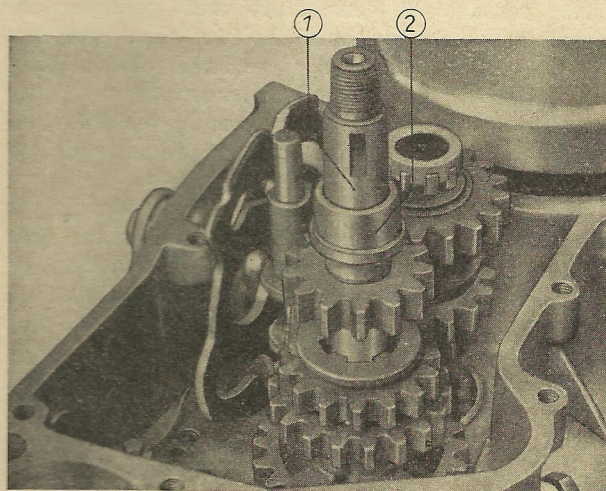

Fig. 12: Gearbox
1. Pull out mainshaft (fig. 12/1) and remove mainshaft gears. Take thrust collar and roller bearing out of race in the left-hand half of the crankcase.
4. Insert mainshaft (fig. 12/1). If 0,1 mm (0,00394 in.) spacers were inserted under the race of the roller bearing, these have to be fitted again and then the race is put on.